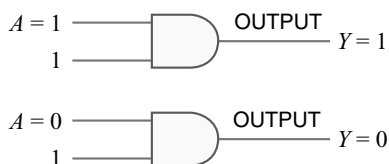

Fig. 24.38
**Theorem 2.** ( $A \cdot 1 = A$ ). This theorem can be verified by ANDing a variable  $A$  with a 1 and is illustrated in Fig. 24.38. Here one input to AND gate is always 1 and the other can be a value 1 or 0. If  $A$  is 1, the output of the AND gate is 1 because both the inputs are now 1's. If  $A$  is 0, the output of the AND gate is a 0. Therefore, a variable ANDed with a 1 is equal to the value of the variable ( $A \cdot 1 = A$ ). This is easy to remember because AND operation is just like ordinary multiplication.